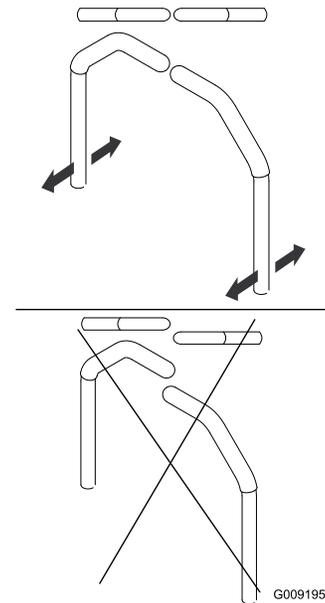

Figure 99
4. Align the levers in the front-to-rear position by bringing the levers together to the NEUTRAL position, and slide them until they are aligned, then tighten the bolts (Figure 99).